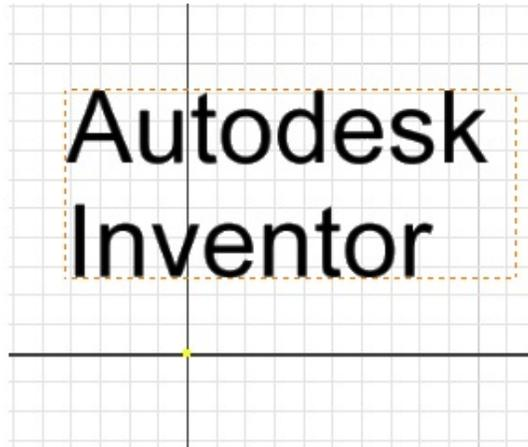

Figure 4-97 Text in the Sketching environment
8. Type the text **Autodesk Inventor** in the **Text Window** in two lines. Choose **OK** to exit the dialog box; the typed text is displayed in the drawing window, as shown in Figure 4-97.